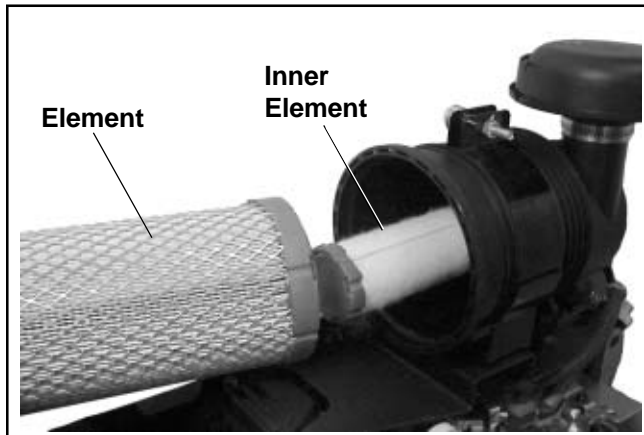

Figure 4-13. Removing Elements.
2. Pull the air cleaner element out of the housing. See Figure 4-13.